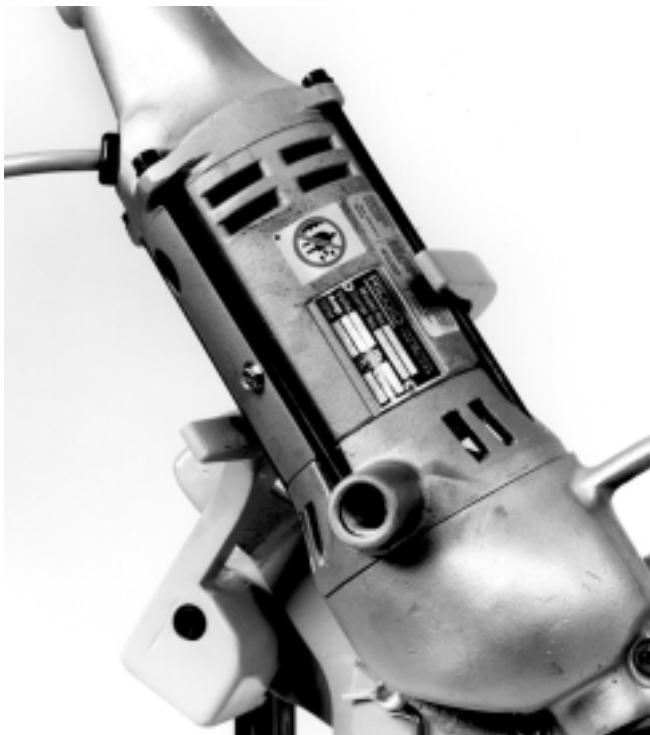

Figure 5 – Position Power Drive Inside Reaction Arm
- b. Place power drive with adapter on the cutter. Power drive and adapter connect to the square drive on the cutter. Be sure power drive rests inside the reaction arm at the rear of the cutter (*Figure 5*).